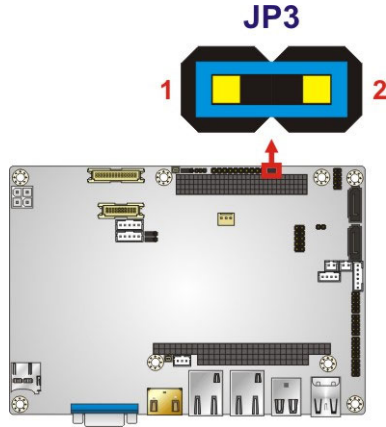

Figure 4-2: AT/ATX Power Selection Jumper Location
- Jumper Location:** See **Figure 4-2**